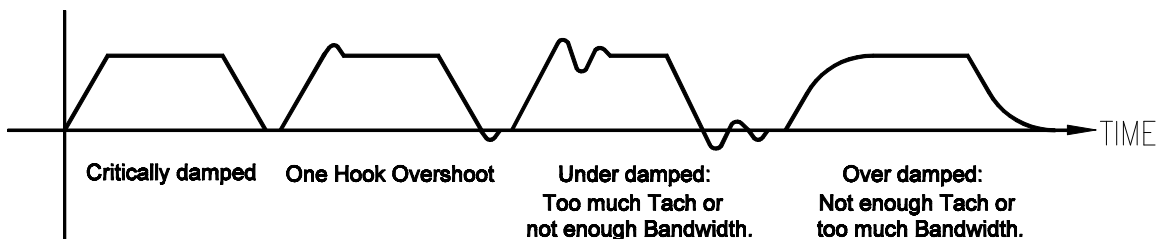

Figure 6.1 Critically damped, One Hook Overshoot, Under and Over damped waveforms
6. Pulse the input and compare the waveform with figure 6.1.